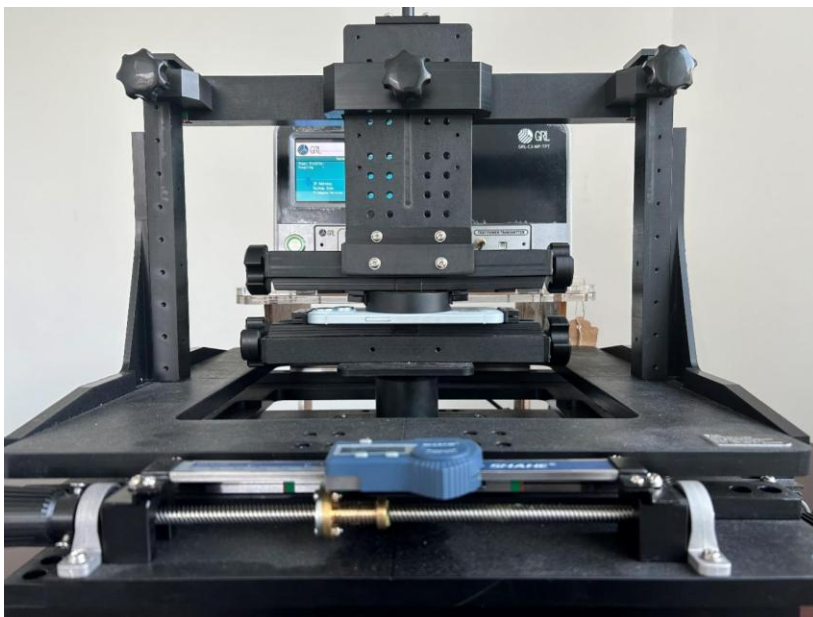

FIGURE 6.7: FIND OPTIMUM COIL POSITION - #2
7. Adjust the positioning tool to make sure the coil is placed at the center as shown in Figure 6.7 below.